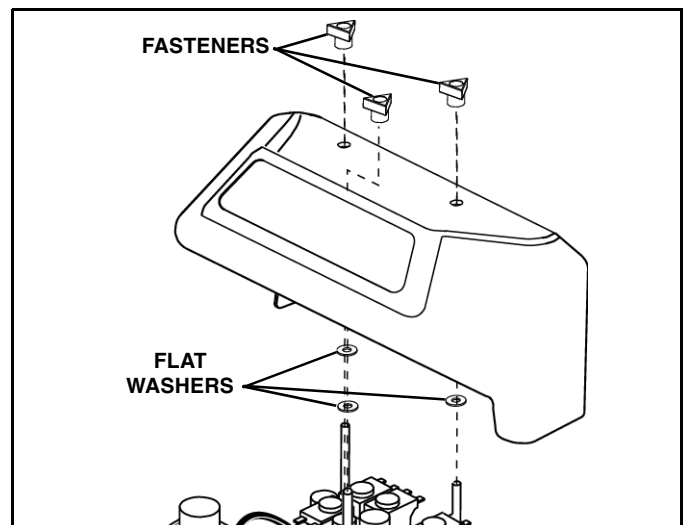

Figure 1-17
19. Ensure that a flat washer is on top of each of the three power unit cover studs and install the cover. Secure with three plastic fasteners. (See Figure 1-17).